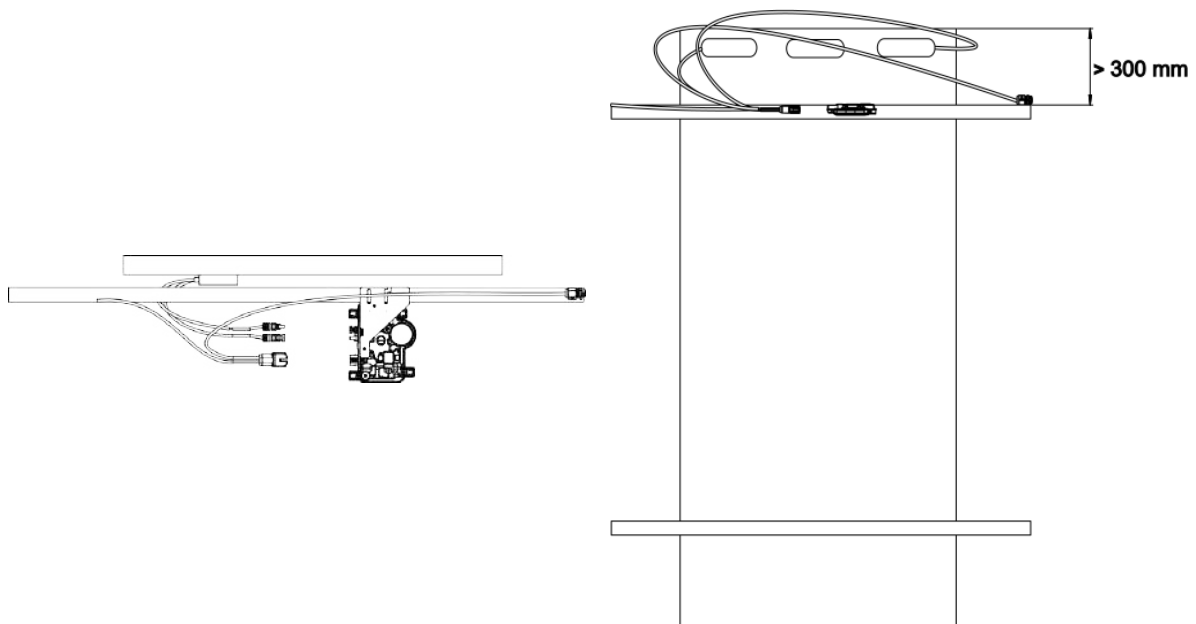

Figure 4: Vertical mount
1. The microinverters should be mounted beneath the modules either horizontally bracketed side up or vertically oriented. They must be protected from direct exposure to rain, UV, and other harmful weather events. For clearance requirements during vertical mounting, see Figure 4: Vertical mount on page 20.